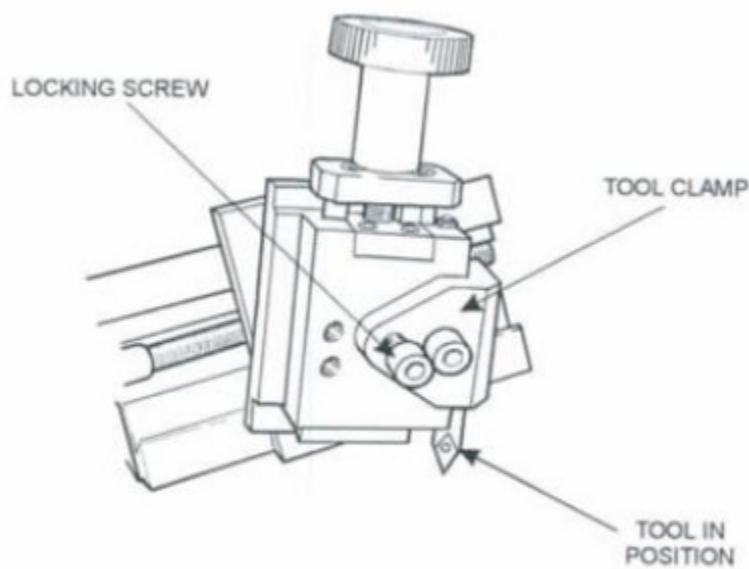

Fig.5
4. To fit the cutting tool, slacken the centre screw on the tool clamp until the tool can be inserted between the clamp bracket and the toolpost body (Fig.5). Position the tool in the desired position and secure by tightening the locking screw.